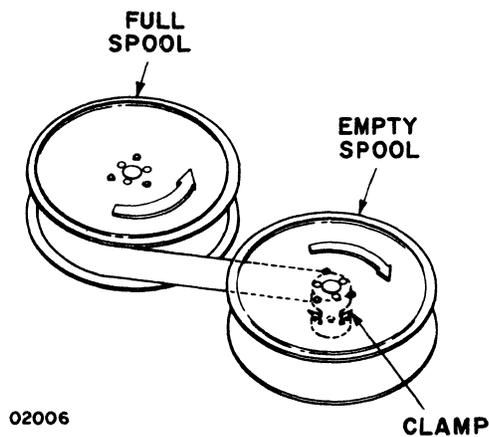

Figure 2-11. Spool Loading
- 1) With the ribbon routed off the bottom of the full spool and over the top of the empty spool, as shown in figure 2-11, wrap the ribbon leader over one of the arrow-shaped holding clamps of the empty spool.